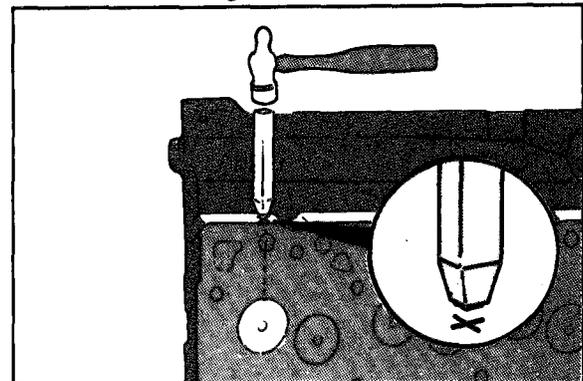

Figure 6-16
11. The illustrated marks indicate valve seats have been ground previously. Previously re-ground seats can be replaced with service seats (Figure 6-16).